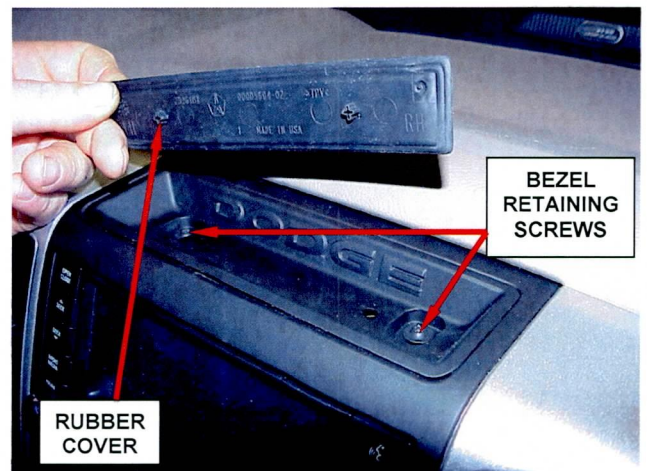

Figure 2 – Storage Tray
3. Remove the small rubber cover on the bottom of the storage tray located above the radio (Figure 2).
5. Remove the two retaining screws in the storage tray located above the radio (Figure 2).
8. Remove the four (4) HVAC control head module retaining screws.
11. Install the four (4) HVAC control head module retaining screws.
14. Install the two retaining screws located in the storage tray located above the radio (Figure 2).
16. Install the small rubber mat located on the bottom of the storage tray (Figure 2).